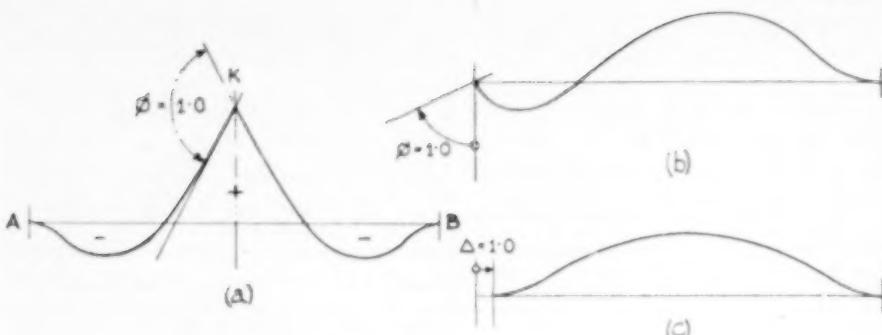

Fig. 4.
By proportion from the unit displacements in *Table No. II*, the movements induced at other joints by these balancing movements can be calculated and the total joint displacements found as in *Table No. III*. For AB, the deflection diagram resulting from unit relative rotation at K, assuming the ends of the arch to be fixed, must be as in Fig. 4 (a). For the given load on AB, the fixed-end moment at A is 126,000 ft.-lb., and the fixed-end thrust is 36,000 lb. The vertical reaction
of the pier EA is 30,000 lb. Hence, the bending moment at K is 36,000 ft.-lb., so that the area of the deflection diagram in Fig. 4 (a) must be 36 sq. ft. per radian.
(3). For all spans, including AB, the deflection diagrams resulting from (i) unit relative joint rotation, and (ii) unit relative joint translation, are as shown in Fig. 4 (b) and (c) respectively. For the given load the area of the diagram for (i) is 126 sq. ft. per radian, and for (ii) 36 sq. ft. per foot.
From Table No. III, the relative rotation of A to B is  $(0.075 + 0.0194) = 0.0944$ , and the relative horizontal translation is  $(1.418 + 0.668) = 2.086$ . Applying these values to the areas of the deflection diagrams in Fig. 4 (b) and (c), the area of the actual deflection diagram of span AB is obtained, that is the area of the influence-line diagram for the bending moment at K due to joint rotations and translations. For the span AB the total area is